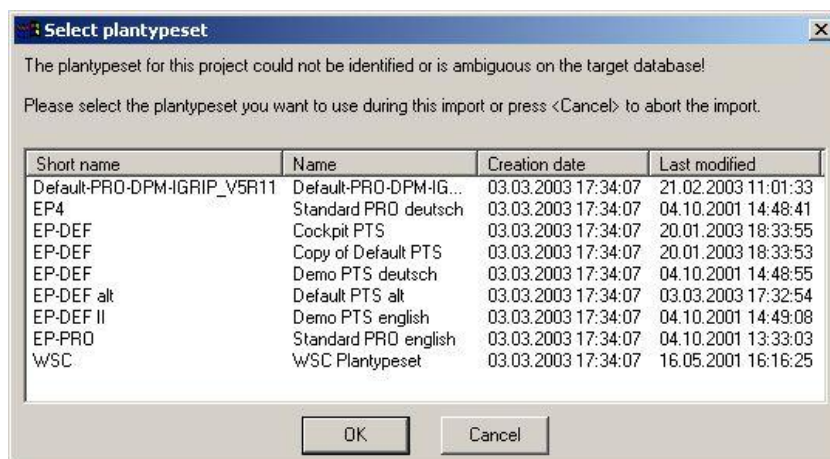

Figure 28: Plantype Set Selector
- A selection dialog then appears (Figure 28) showing all of the plantype sets that are available.